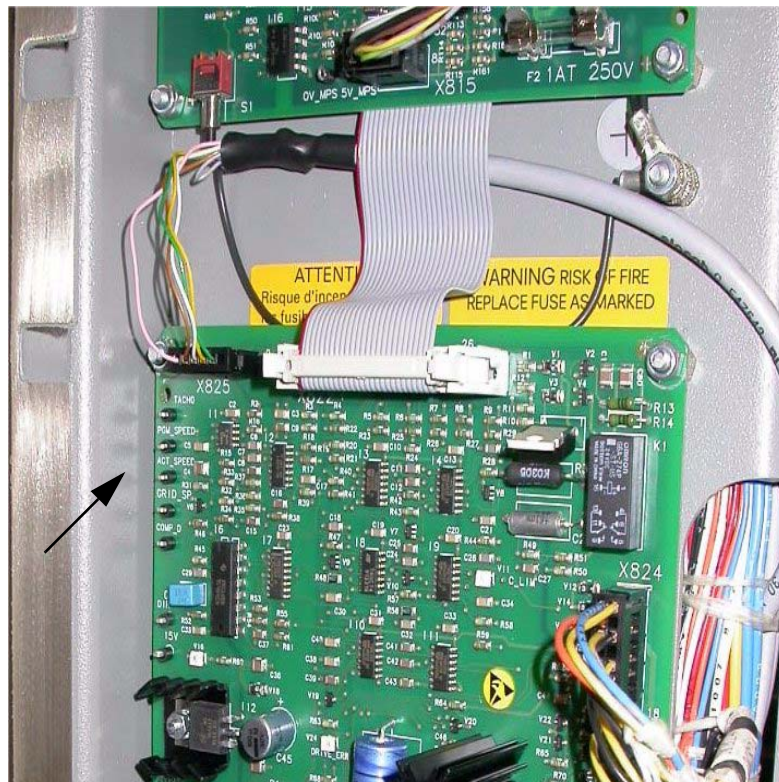

Fig. 6
- Disconnect /remove connector X822 of the ribbon cable on the PCB D802, see Figure 6.
- Connect the measuring points "GRID\_SP" and "0V" on the upper left side of the D802 by a clip-on measuring line, the grid drive will run continuously with maximal angular velocity of that system. (The velocities on different systems may slightly vary). See arrow on Figure 6.